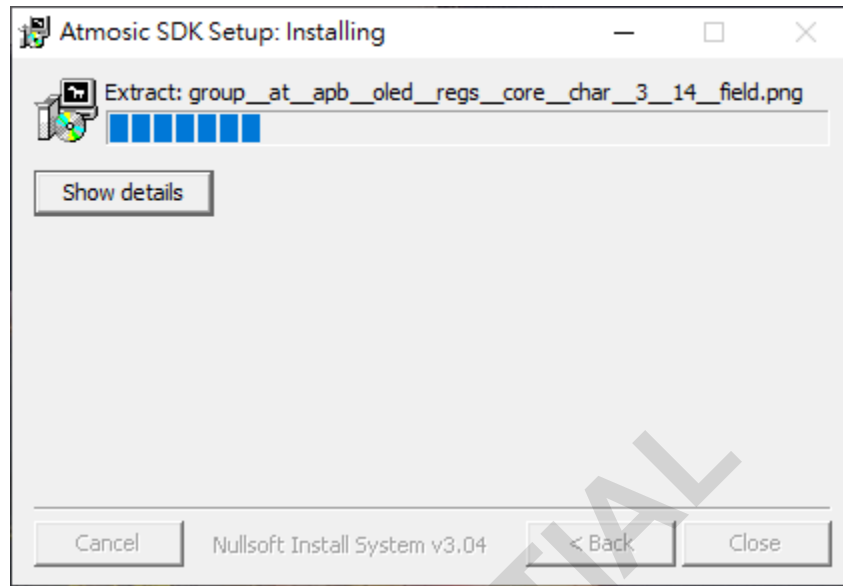

Figure 9 - Installing SDK
- Figure 9 - Installing SDK
The installation process takes several minutes to complete. The Windows Installer is installing MSYS2, GNU Toolchain and Atmosic SDK files to the target directory. See Figure 9.